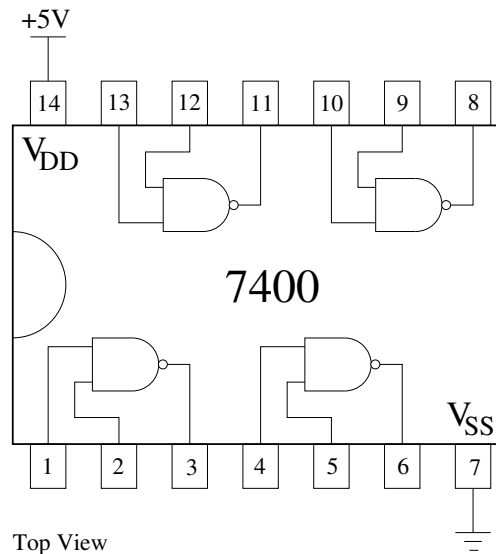

Figure 2: Quad 2-Input NAND gate
a) Connect a 74LS00 four two-input NAND gate to power (see Fig. 2) and verify for one of the gates that it obeys the NAND truth table. To do so, attach the output to an LED and the inputs to either 0V or +5V.